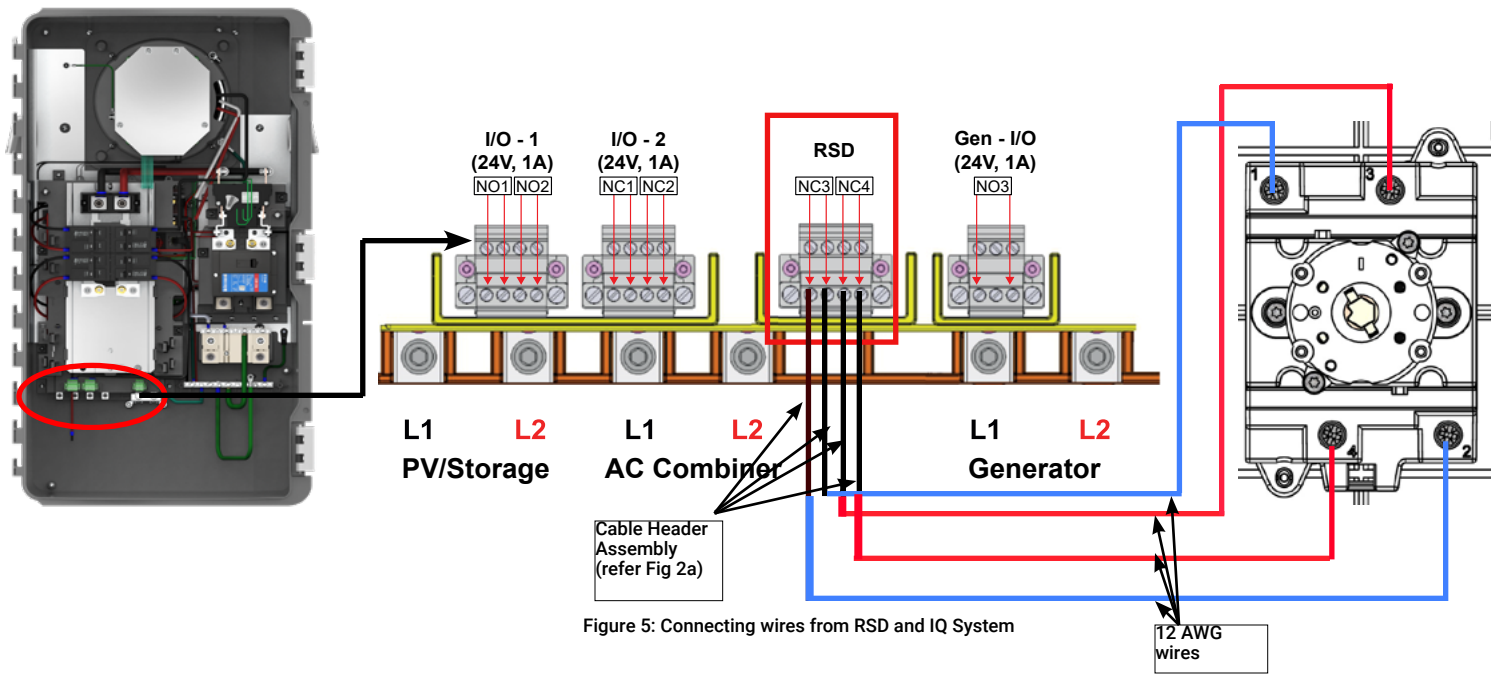

Figure 5: Connecting wires from RSD and IQ System
- Connect the cables connected from Terminal 3 and 4 of the RSD to the yellow portion of the cable header assembly (Figure 2) from NC4 and crimp it. Refer to Figure 5 and table below.